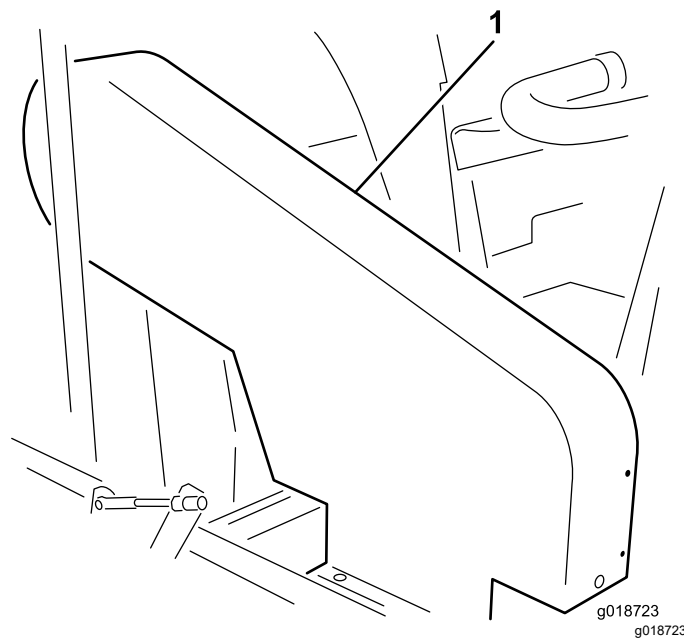

Figure 19
Note: It is not necessary to remove the upper belt guard (Figure 19) to check the belt tension. If you remove the belt guard, remove the 4 bolts, washers, and nuts securing the guard to the frame. Do not operate the machine without the guards in place.
Check the tension by pressing the belt at the midspan of the impeller and clutch pulleys with 18 to 22 N (4 to 5 lb) of force. The belt should deflect 1.3 cm (1/2 inch). If the deflection is incorrect, refer to Adjusting the Impeller Drive Belt (page 24). If the deflection is correct, continue normal operation (Figure 19).
Check the tension by pressing the belt at midspan of the jackshaft and clutch pulleys with 18 to 22 N (4 to 5 lb) of force. The belt should deflect 6 mm (1/4 inch). If the deflection is incorrect, refer to Adjusting the Jackshaft Belt (page 25). If the deflection is correct, continue normal operation (Figure 19).
- Remove the 4 bolts, washers and nuts securing the upper shroud to the frame (Figure 19).